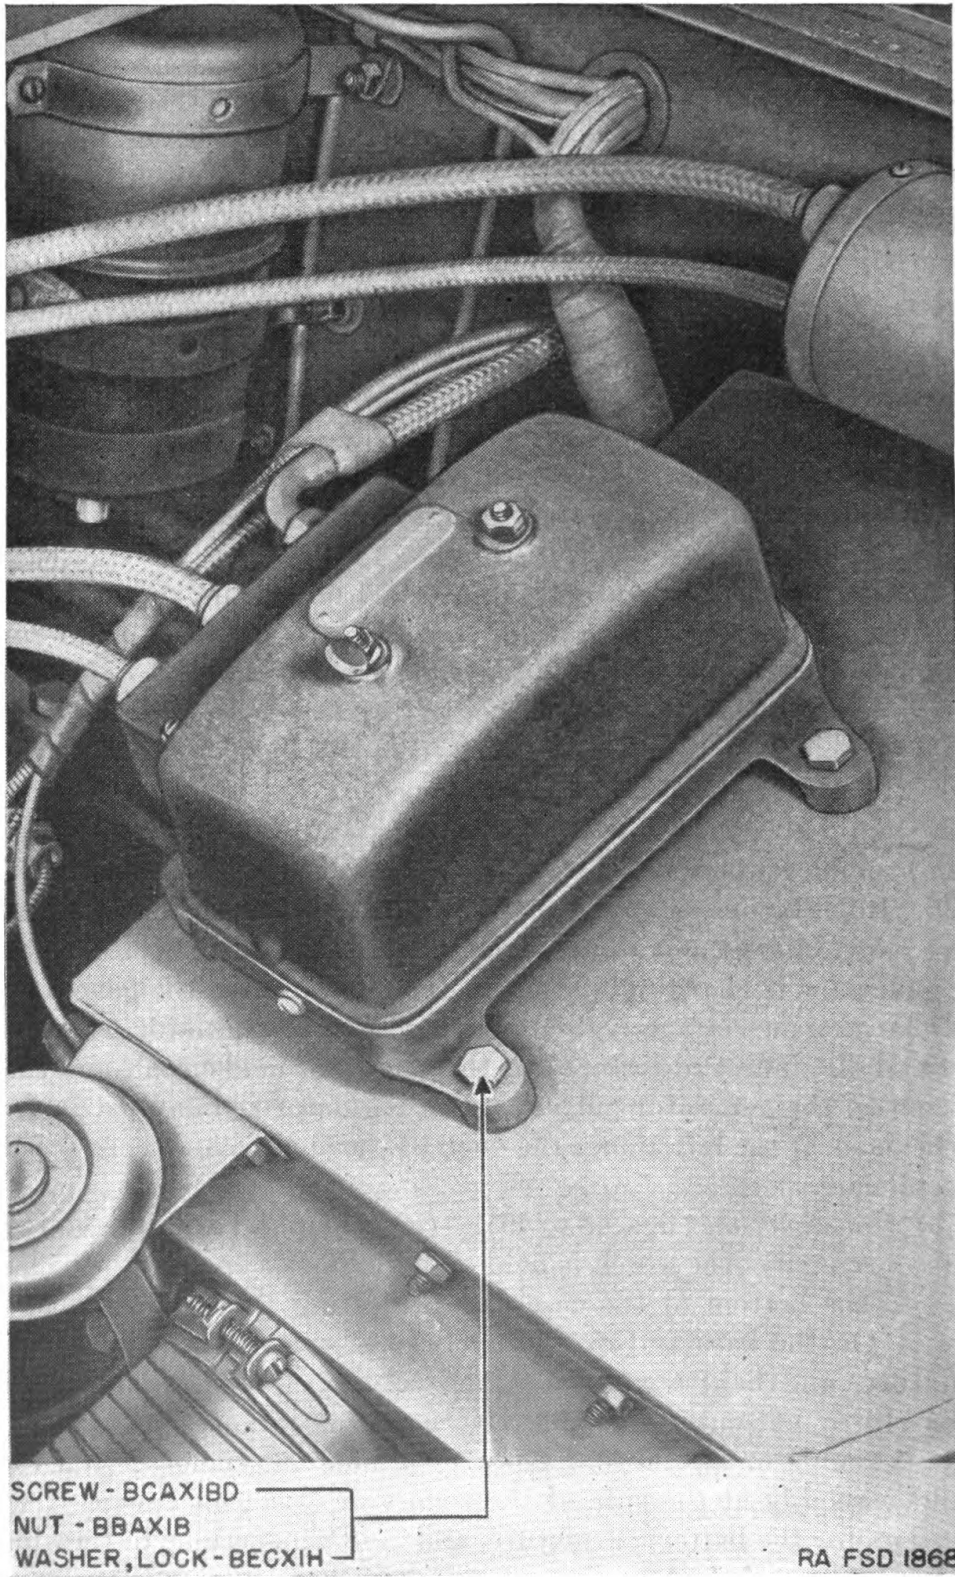

FIGURE 45.—Voltage and current regulator, installed.
(1) *Construction* (figs. 45 to 49).—(*a*) The regulator is mounted in a case having a cover which is held on by two nuts engaging two studs fixed to the bottom of the case and projecting through holes in the cover. On the base and extending beyond one side are the battery, armature, and field terminals which connect to the circuit breaker assembly or cut-out relay, the current regulator assembly, and the voltage regulator assembly. These terminals are enclosed in a radio shield assembly at the side of the regulator case and provided with openings for the battery, armature, and field connections to terminals. On the bottom of the base are several resistance units and the circuits are such that whenever the voltage or current delivered is too high,